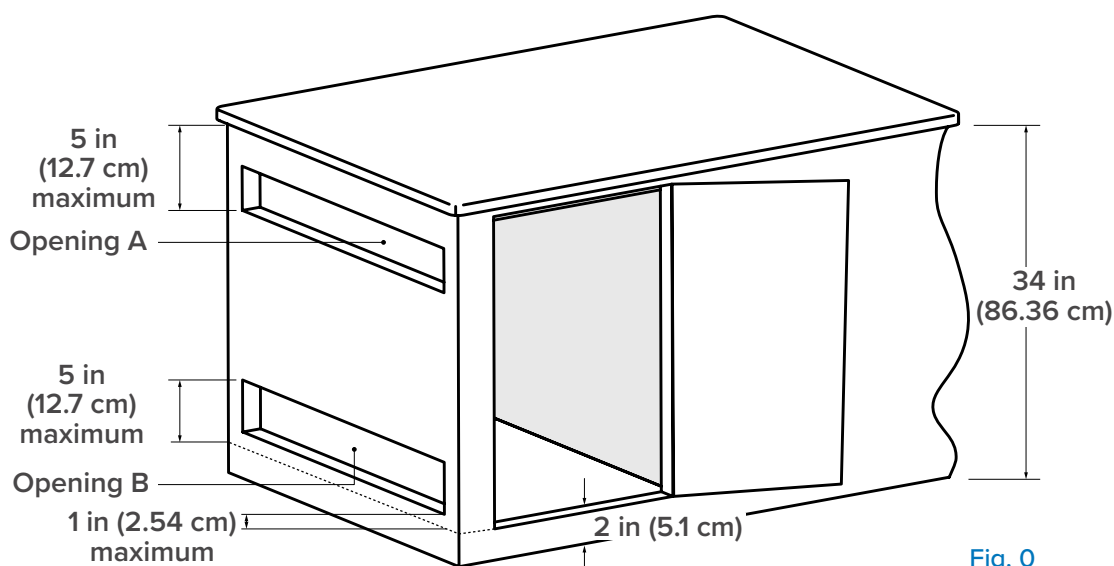

Fig. 0
- The the bottom ventilation openings must be no more than 5 in (127 mm) above the floor **(Fig. 0)**.